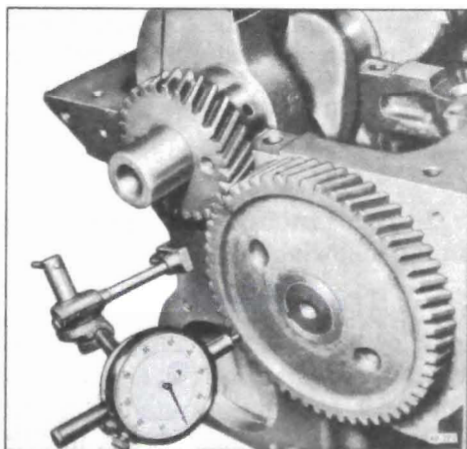

Figure 60-132 - Checking Camshaft Gear Runout
3. Check camshaft and crankshaft gear runout with a dial indicator. The camshaft gear runout should not exceed .004" and the crankshaft gear runout should not exceed .003". See Figure 60-132.